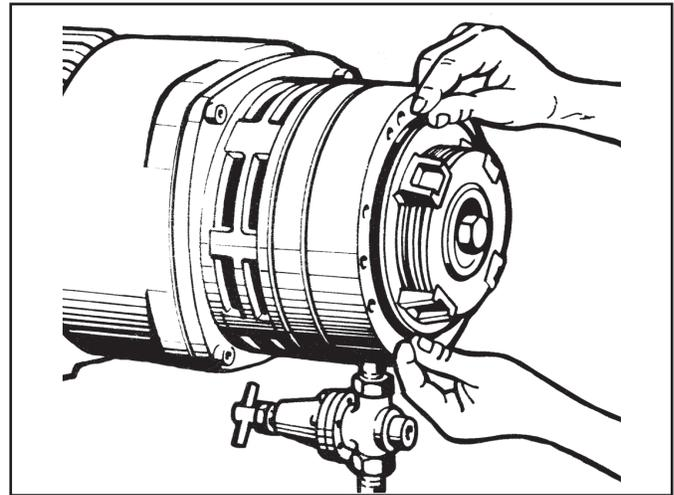

Figure 8 - Installing O-Ring (#30)
1. Lubricate O-ring (#30) with a light coating of Vaseline or equivalent and place it on the Piston Assembly. (See Figure 8).